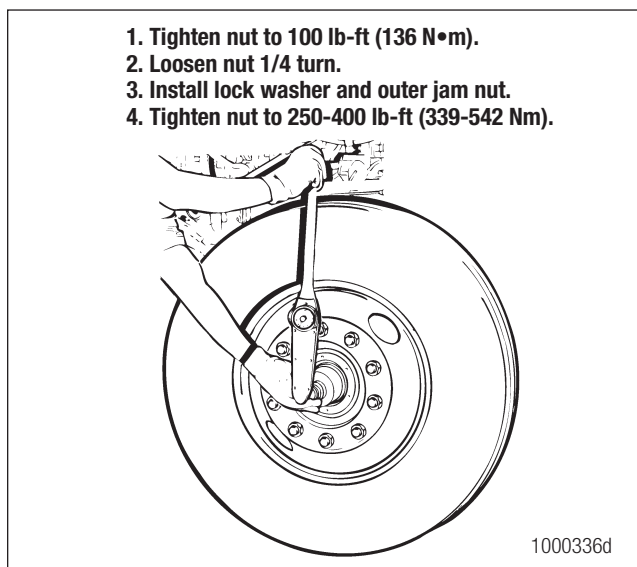

Figure 9.3
9. Use a torque wrench to tighten the adjusting nut to 100 lb-ft (136 Nm). Figure 9.3.